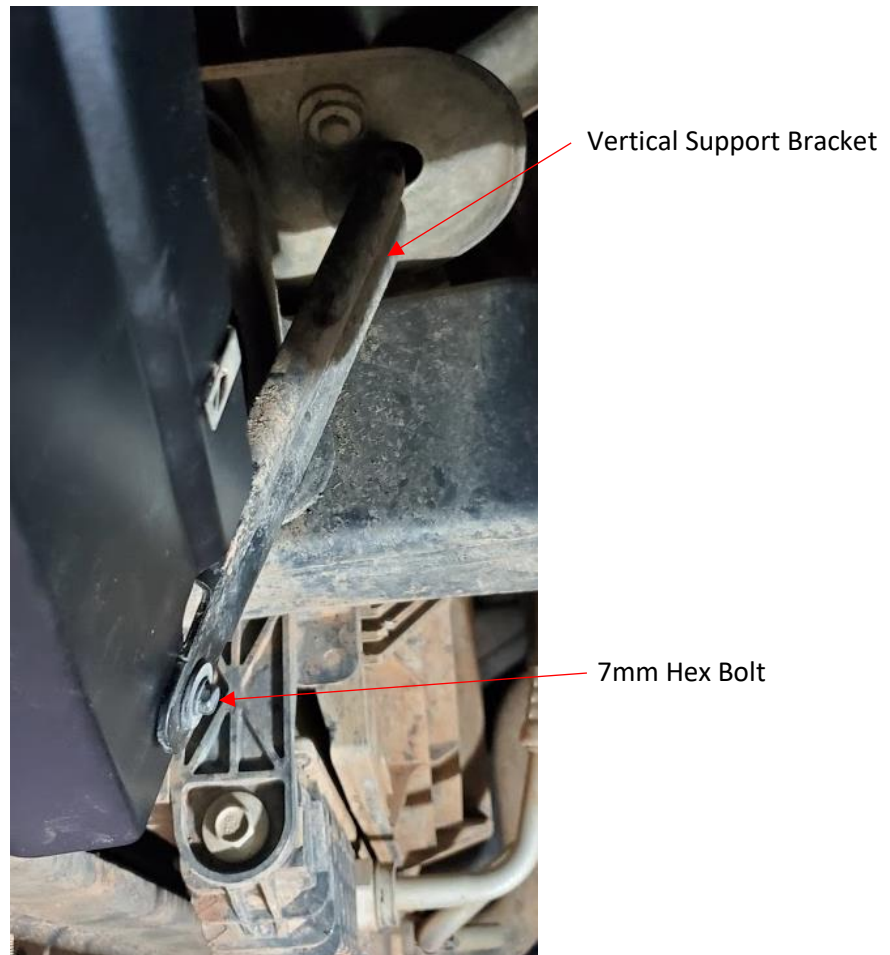

Figure 5 Vertical Support Bracket
6. Install the new fender liner onto the vehicle using the OEM screws. The vertical support bracket will need to be bent towards the front of the vehicle to accommodate the new position of the 7mm hex as shown in Figure 5.